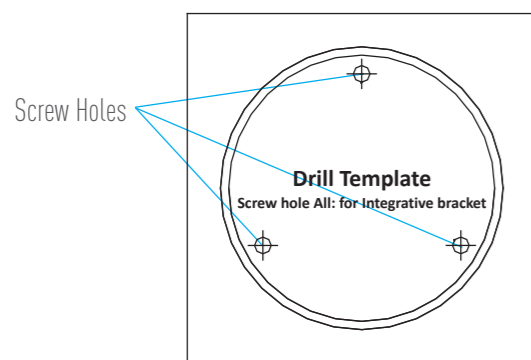

Figure 1 Drill Template
1. Attach the drill template (supplied) to the place where you want to fix the camera, and then drill the screw holes on the installation surface according to the drill template (figure 1).